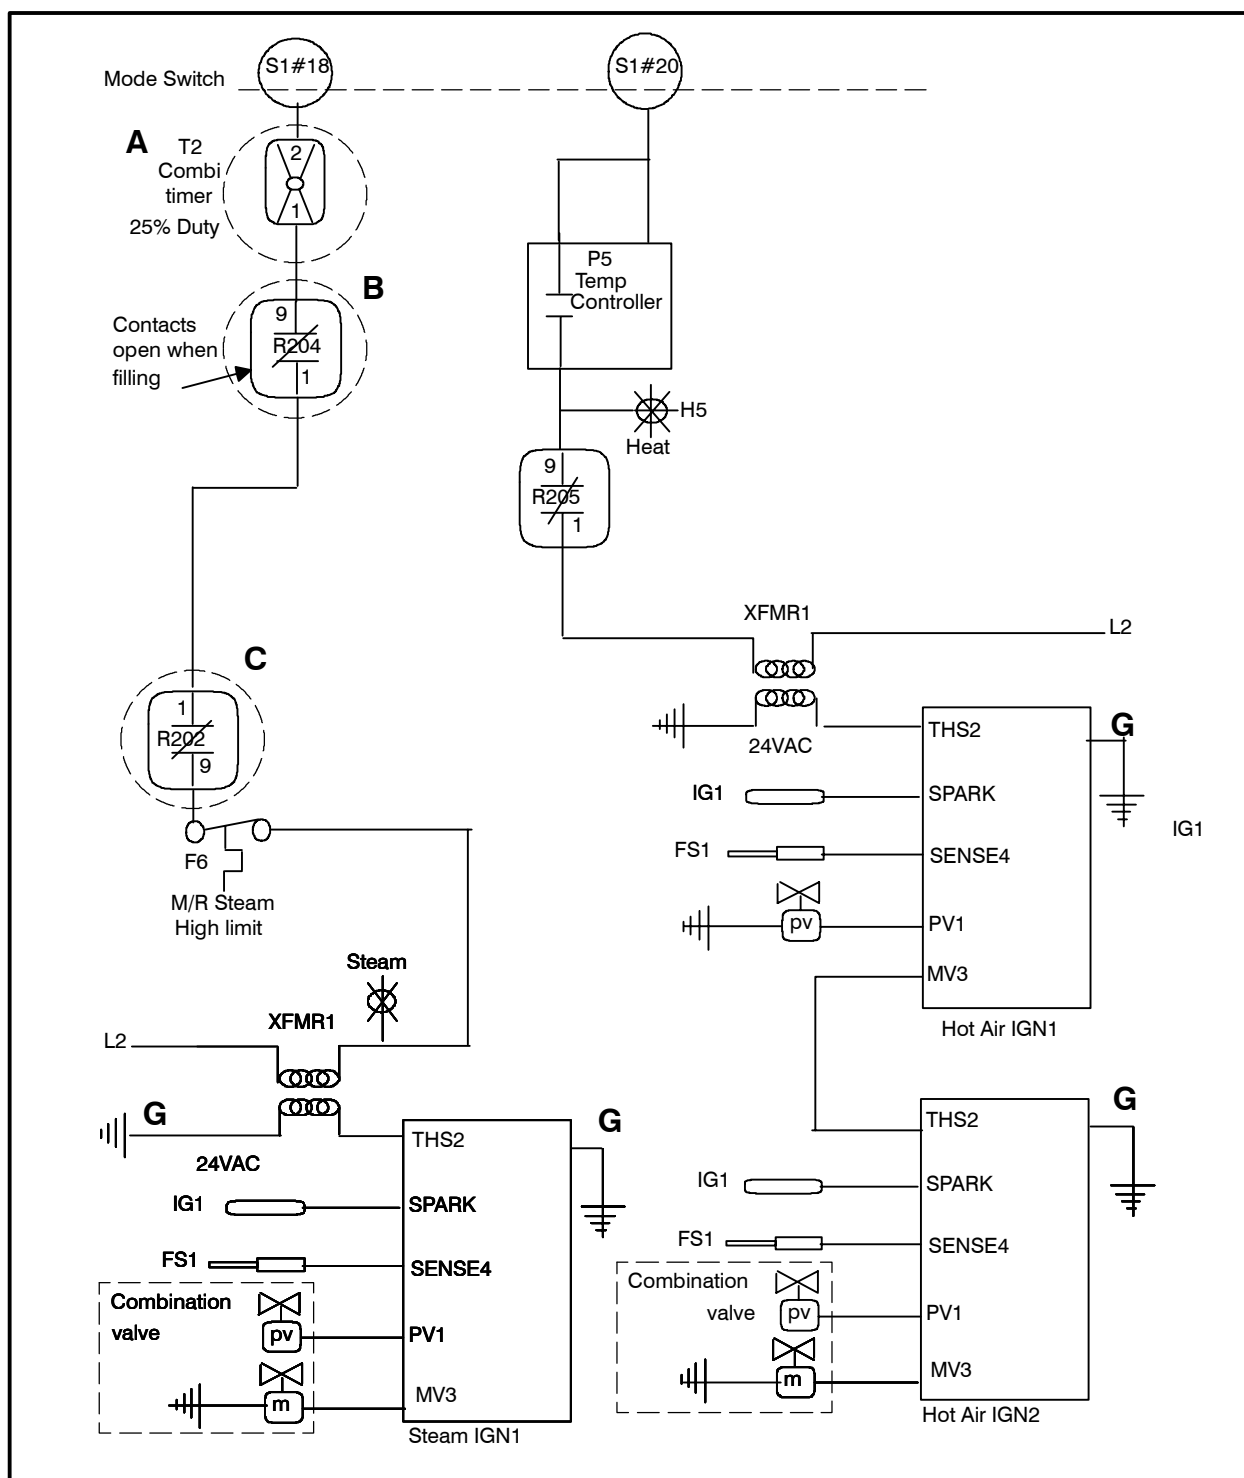

FIGURE 4
1. Check T2 combi solid state timing relay input and output. See FIGURE 4, location (A).
1. Check mode switch terminals 4, 10, and 22. See FIGURE 4, location (A).
2. Check S11 fuse. See FIGURE 4, location (J).
3. Check step down transformer XFMR inputs and outputs. See FIGURE 4, location (L).
5. Check R5 relay coil and terminals. See FIGURE 4, location (O).